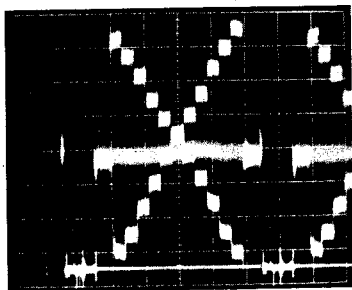

Fig. 5-6-23
- o Connect the oscilloscope to TP9 (G OUT) and trigger the oscilloscope at H rate. (Use TP9 (BL), Deflection board.)
- o Adjust VR1 (G GAMMA) on the Process VIC1 board so that the gray scale waveform is straight. (Fig. 5-6-23)